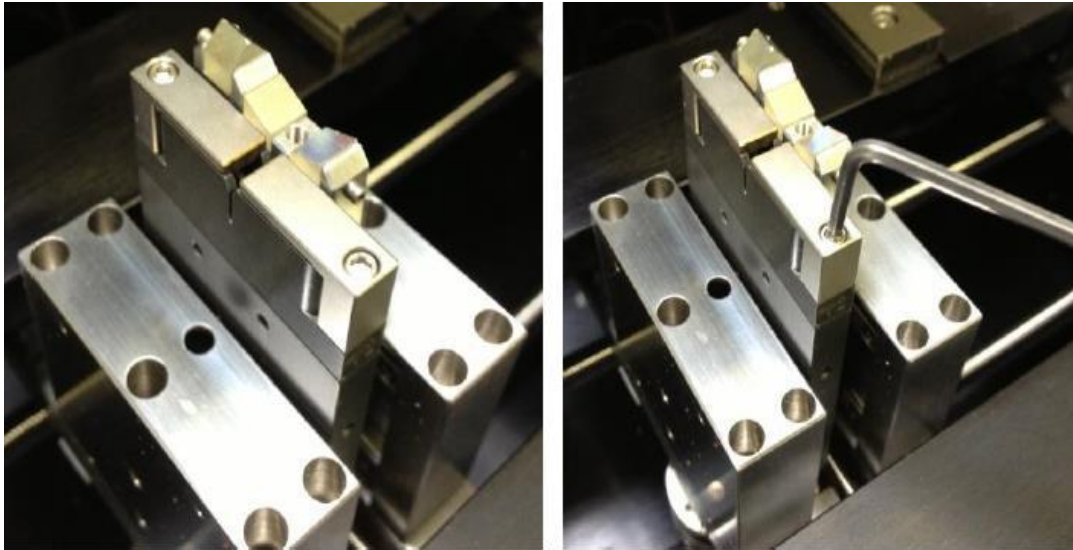

Figure 49 Remove the screws on the stainless steel cover plates
5. Remove the 2 screws that secure the stainless steel cover plates (as seen in Figure 49) onto the furnace using a 5/64" hex key or balldriver.